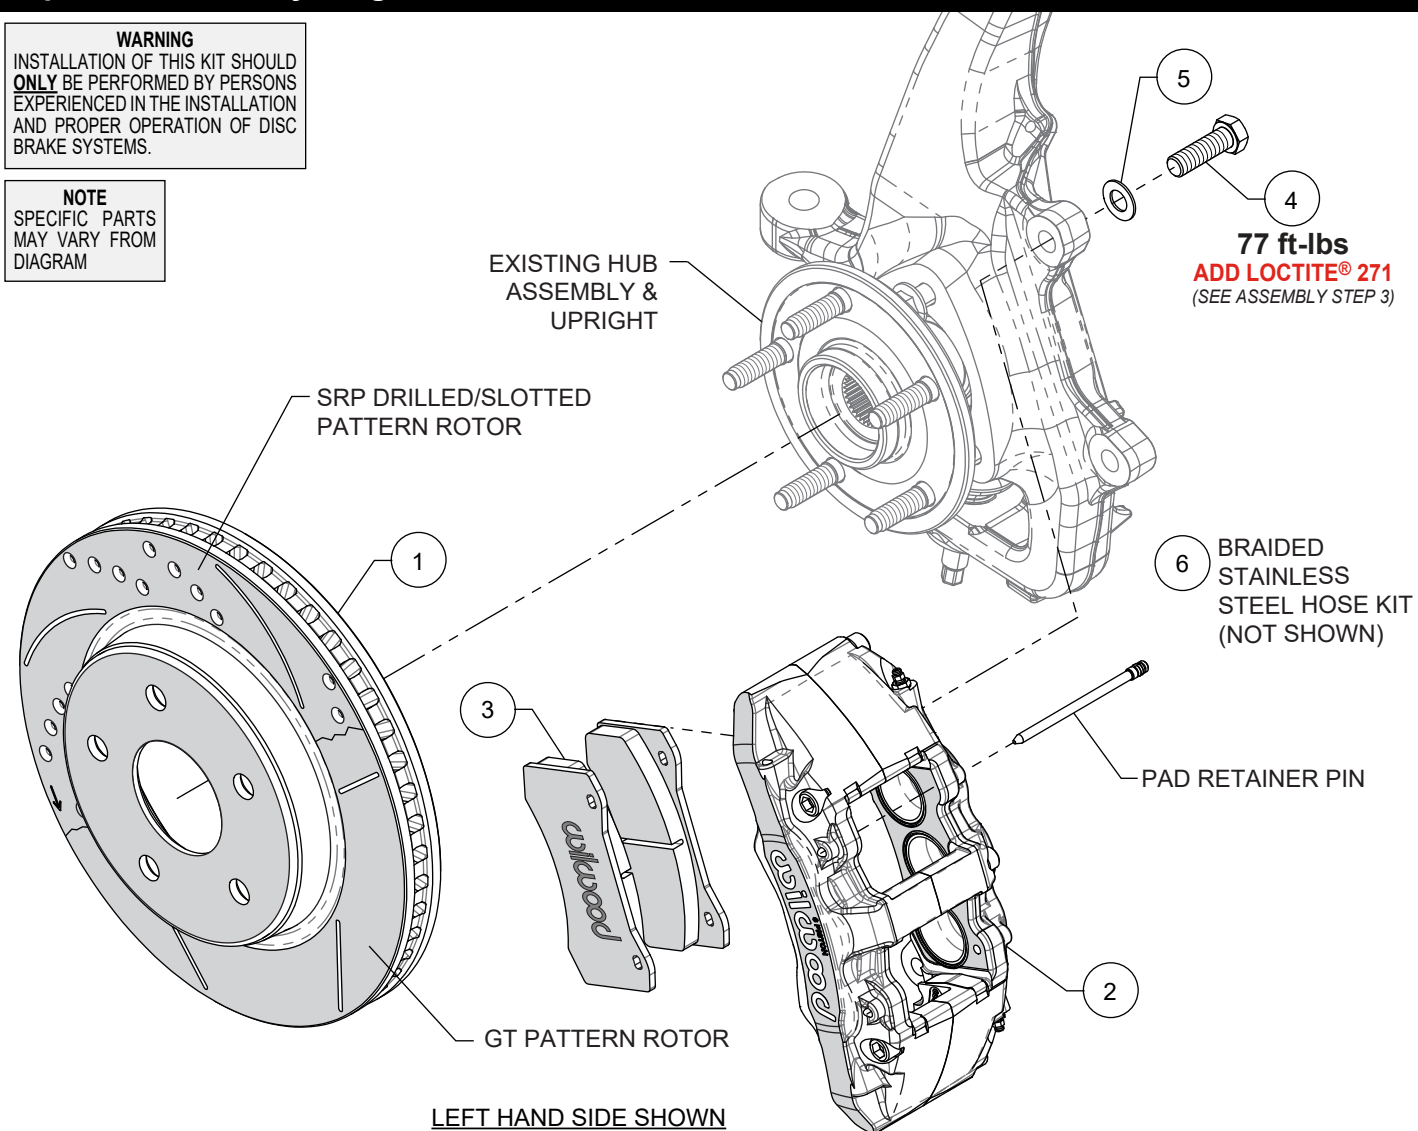

Figure 1. Typical Installation Configuration
Numbers in parenthesis refer to the parts list and Figure 1 on the preceding pages.
STEP 1 Slide the rotor (1) onto the hub. **NOTE:** The rotor must fit flush against the hub flange or excessive rotor run out may result. Install three lug nuts (finger tight) to keep the rotor in place while continuing with the installation, Photo 1.
STEP 2 Remove the two pad retaining pins from the caliper (2), Figure 1. Insert the brake pads (3) into the caliper from the bottom, with the friction material facing the rotor, as shown in Photo 2. Secure the brake pads in place with the pad retaining pins, Photo 3 and Figure 1. **CAUTION:** Ensure pad retaining pins are completely engaged into caliper. It is recommended to use a small flat punch and hammer to tap the pins in until they are fully seated.
STEP 3 **NOTE:** This kit contains distinct right and left hand calipers that must be mounted in a specific direction, as described below. Ensure that the caliper is mounted so the largest pistons are at the rotor exit end of the caliper, in relation to the forward direction of the rotor. Mount the caliper (2) onto the OEM caliper mounting bosses of upright using bolts (4) and washers (5), as shown in Figure 1. Apply red *Loctite*® 271 to bolt threads, and torque to value shown in Figure 1.
STEP 5 Attach brake line to caliper. **NOTE:** OEM rubber brake hoses generally cannot be adapted to Wilwood calipers. Install Wilwood's braided stainless steel flexline hose kit (6) included with this kit. See below for more info on flexline kits.